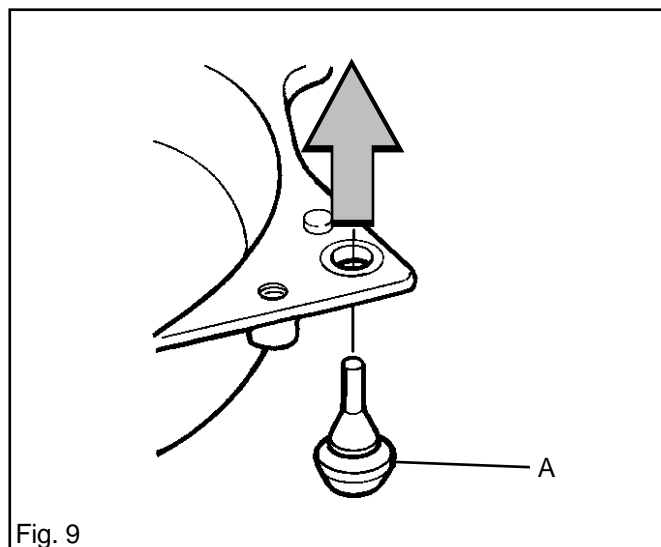

Fig. 9
- D. Refit the rubber stop (A). See fig. 9.